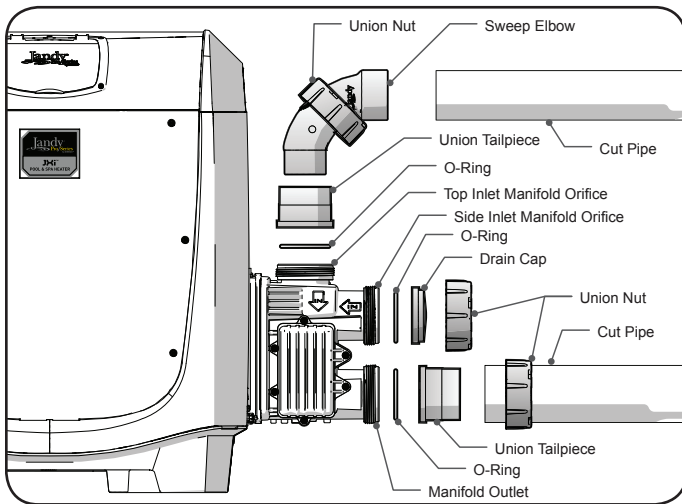

Figure 10. Inlet Piping
- Slide the union nut onto the cut pipe length, or sweep elbow. Ensure proper nut orientation with threads directed towards the heater manifold. See *Figure 10*.